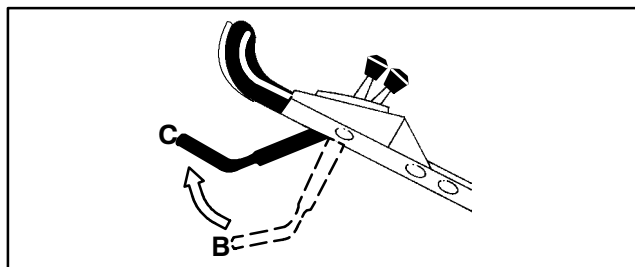

Figure 8
- 8.** Bring the control bar up into the mid position (about 5 inches below the handle cross bar) (Fig. 8, position C).